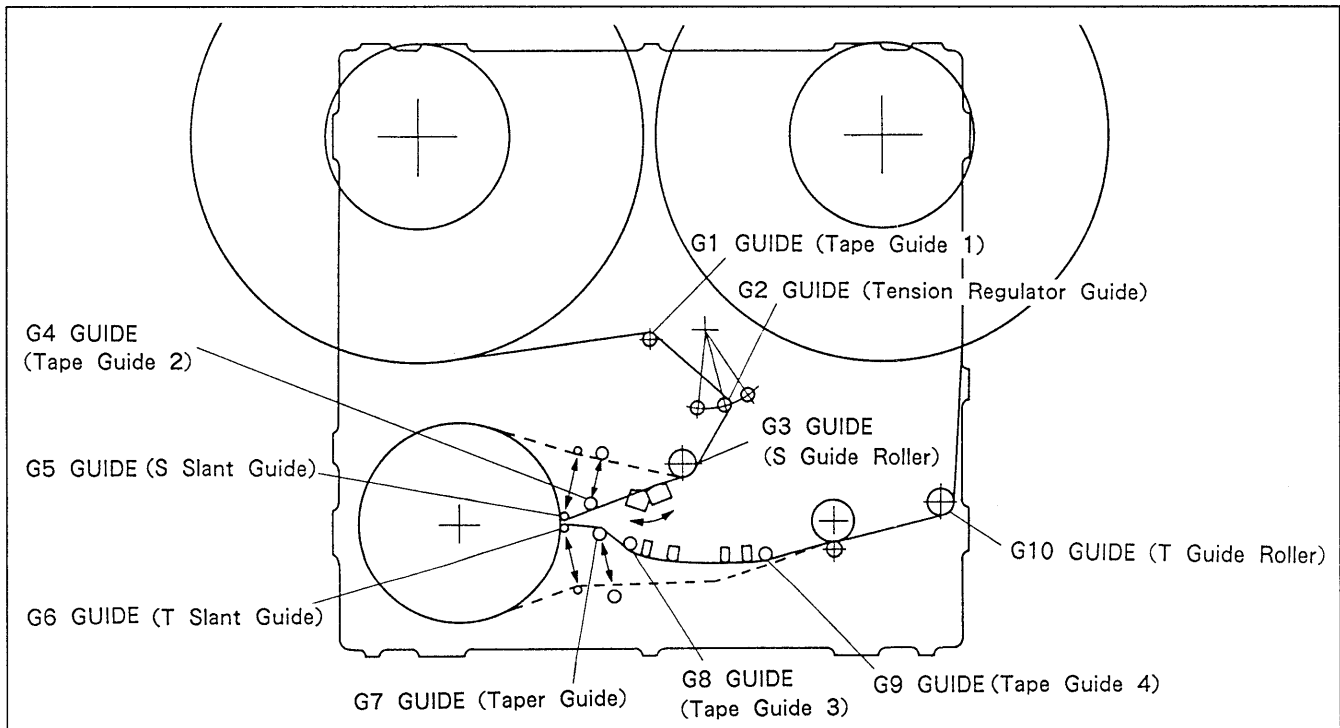

Fig. 6-13-1. Location of Tape Guides
- A. As shown in Fig. 6-13-1, HDD-1000 guarantees the tape path by nine tape guides.